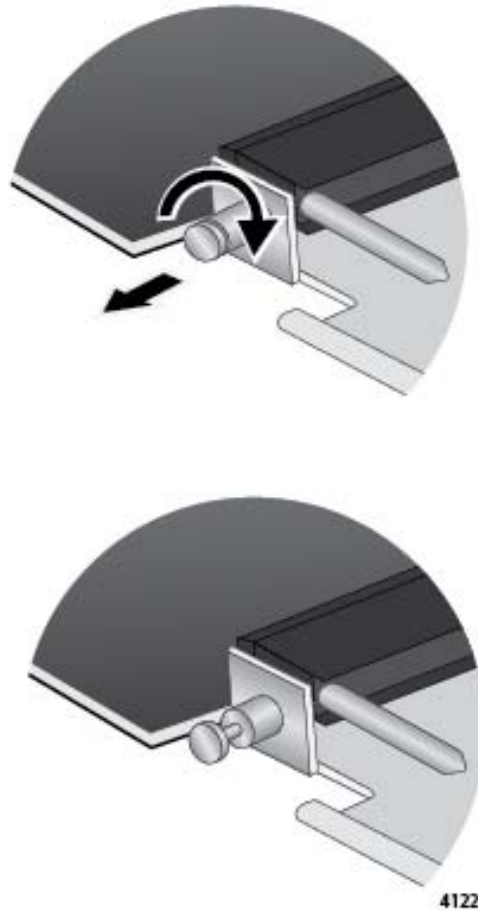

Figure 81. Retracting the Retaining Pin on the AT-SBx81XLEM Line Card
6. With your thumb and forefinger, pull out the retaining pin on the side of the line card and turn it clockwise one quarter turn so that it remains in the retracted position. Refer to Figure 81 on page 155.